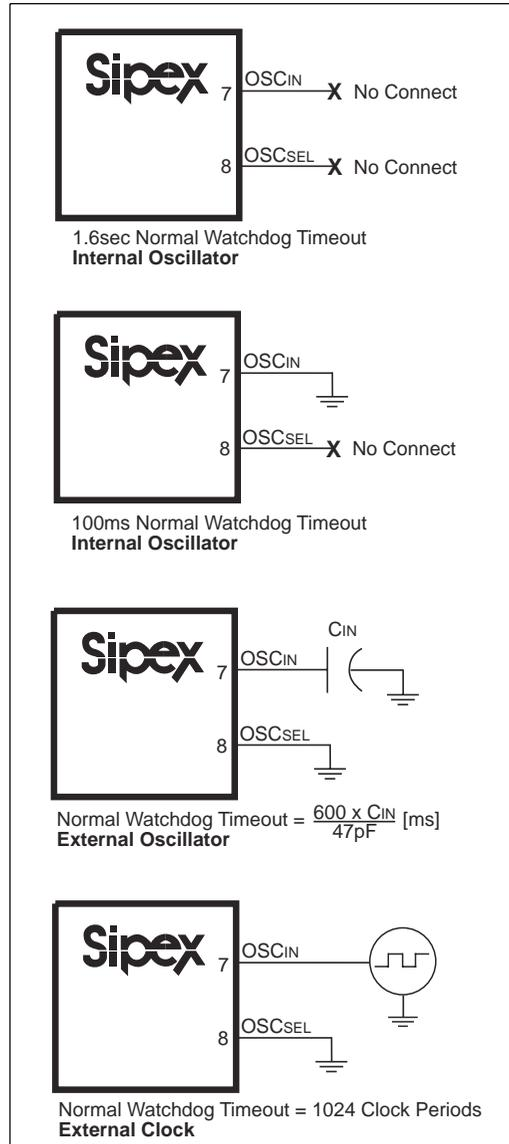

Figure 21. Selecting Timeout Periods
**Pin 7 —  $OSC_{IN}$  — External Oscillator Input.** When  $OSC_{SEL}$  is unconnected or driven HIGH, a 10  $\mu\text{A}$  pull-up connects from  $V_{OUT}$  to this input pin, the internal oscillator sets the reset and watchdog timeout periods, and this input pin selects between fast and slow watchdog timeout periods. When  $OSC_{SEL}$  is driven LOW, the reset and watchdog timeout periods may be set either by a capacitor from this input pin to ground or by an external clock at this pin (refer to *Figure 21*).
The  $\text{OSC}_{\text{SEL}}$  and  $\text{OSC}_{\text{IN}}$  inputs control the watchdog are reset timeout periods. Floating  $\text{OSC}_{\text{SEL}}$  and  $\text{OSC}_{\text{IN}}$  or tying them both to  $\text{V}_{\text{OUT}}$  selects the nominal 1.6s watchdog timeout period and 200ms reset timeout period. Connecting  $\text{OSC}_{\text{IN}}$  to ground and floating or connecting  $\text{OSC}_{\text{SEL}}$  to  $\text{V}_{\text{OUT}}$  selects a 100ms normal watchdog timeout period and a 1.6s timeout period immediately after reset. The reset timeout period remains 200ms. Refer to *Figure 20*. Select alternative timeout periods by connecting  $\text{OSC}_{\text{SEL}}$  to ground and connecting a capacitor between  $\text{OSC}_{\text{IN}}$  and ground, or by externally driving  $\text{OSC}_{\text{IN}}$ . A synopsis of this control can be found in *Figure 21* and *Table 1*.